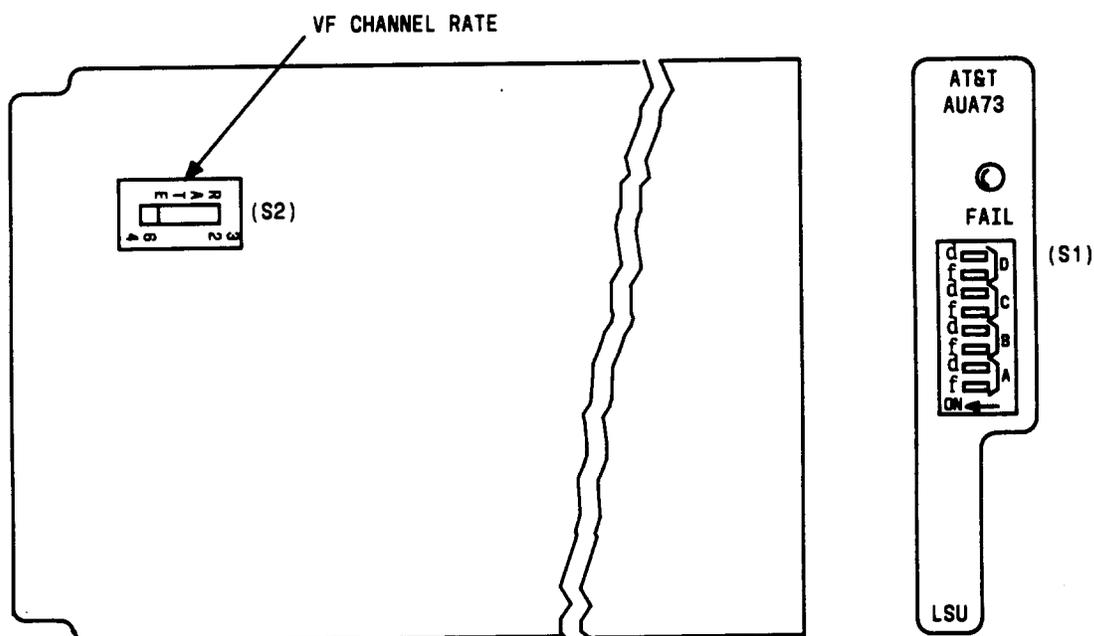

Fig. 1—AUA73 LSU Option Switches
4. Set switch S2 located on the side of the LSU circuit pack (FIG. 1) to position 32 and proceed to Step 6.
5. Set switch S2 located on the side of the LSU circuit pack (FIG. 1) to position 64.